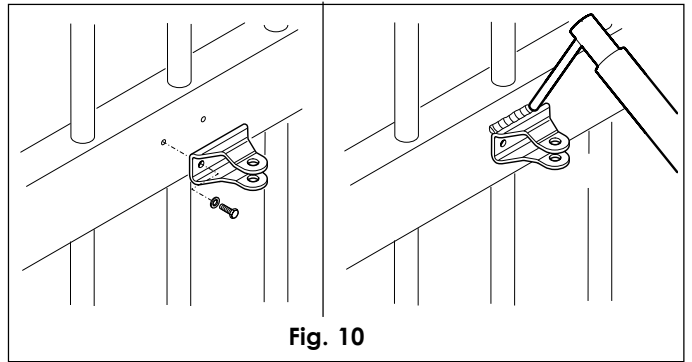

Fig. 10
- The fitting can be either welded directly to the leaf, or screwed on, using the threaded inserts (Fig. 10).